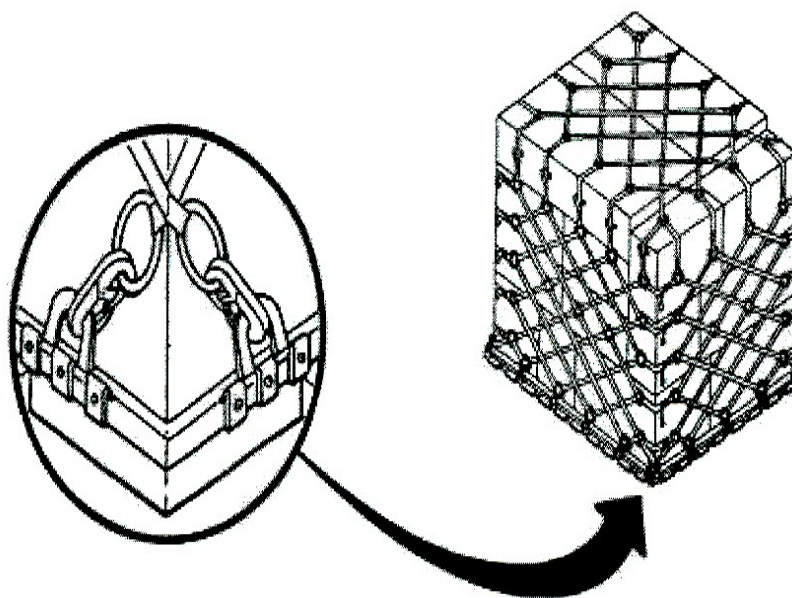

Figure 3-144
e. Direct personnel to attach the top net to the side nets by hooks and rings. The two side nets are attached to the rings on the pallets and go around the side of the load and a top net goes over the top of the cargo (see Figure 3-144).